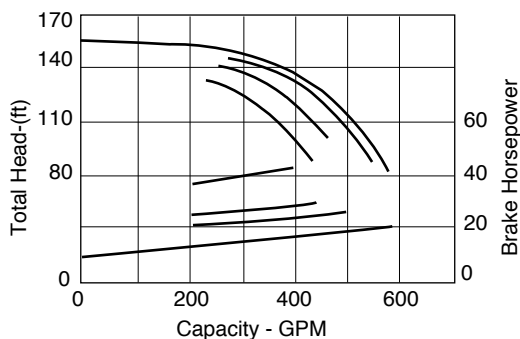

FIGURE 61. Effect of Viscosity Increase
- A change in viscosity can affect the performance of a centrifugal pump significantly. The performance of a pump (when the viscosity of the liquid is progressively increased) is shown in Figure 61.